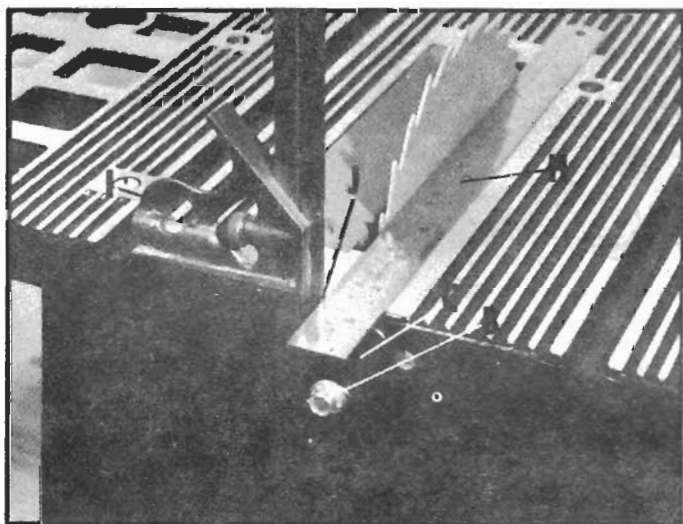
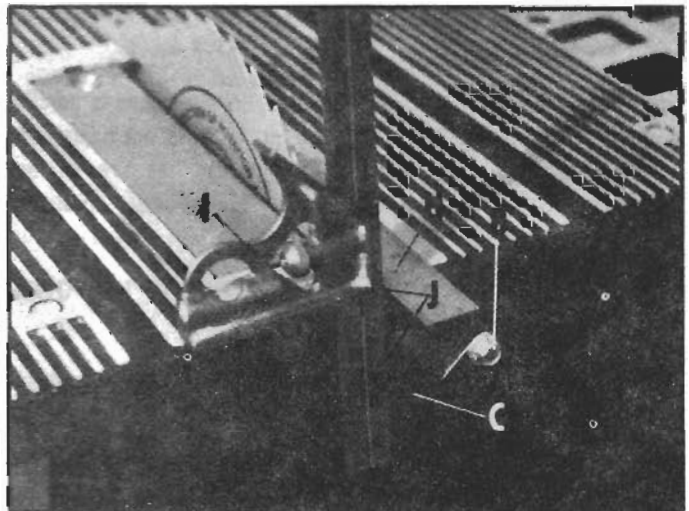
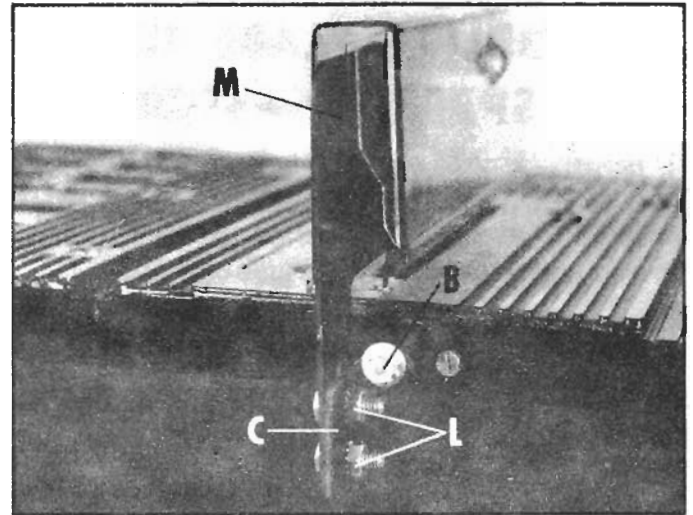

Fig. 19
Fig. 20
Fig. 22
6. Place a straight edge (H) Fig. 19 on saw table against saw blade, as shown. Place a combination square (I) on table as shown with blade end (J) of square against straight edge (H) and bracket (C). Adjust bracket (C) until it is flat against square (J) and tighten screw (B) Fig. 19 and Fig. 20.
8. Assemble the spreader and guard assembly (M) Fig. 22 to the spreader bracket (C) and tighten two nuts (L).
9. Double check alignment of spreader (M) Fig. 22 to saw blade using a straight edge. If further alignment is necessary adjust spreader bracket (C) Fig. 20.
10. Frequently check to make certain hex head screw (B) Fig. 22 is tight.
11. When it is necessary to remove the blade guard assembly (to permit dado head or moulding cutterhead operation) loosen two nuts (L) Fig. 22 and slide blade guard and spreader upward. Alignment of spreader bracket (C) should not be disturbed.